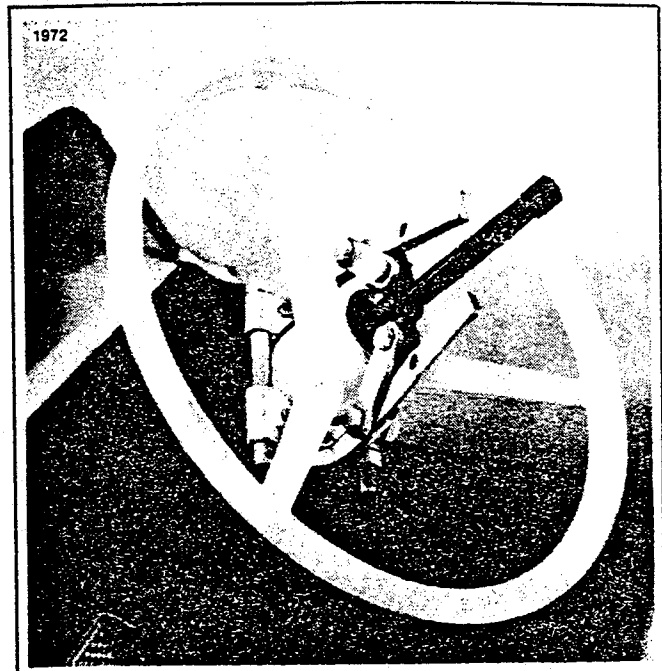

Figure 2-15. Pulling the Steering Wheel
1. Remove score card holder decal (35), screw (34) and score card holder (1).
3. Loosen steering wheel nut (2) until flush with end of shaft and apply penetrating oil to shaft splines.
4. See Figure 2-15. Install Harley-Davidson WEDGE ATTACHMENT, Part No. 95637-46, under the steering wheel. Cup (4, Figure 2-12) can be depressed to gain clearance. Place a thick washer on top of the steering wheel nut to prevent damage to the shaft